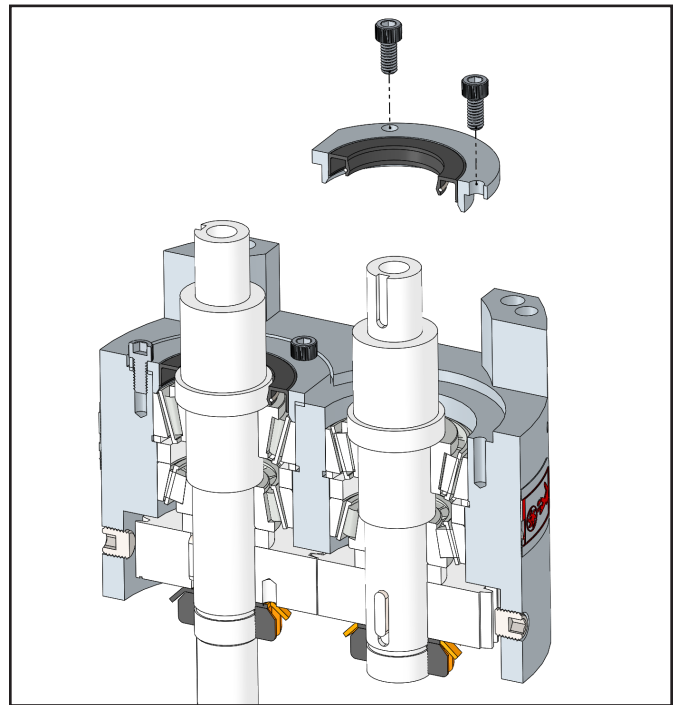

Figure 47.
11. Flip gearcase assembly, lubricate shaft, install oil seals and bearing retainers (fig. 47) Ensure proper clearance.